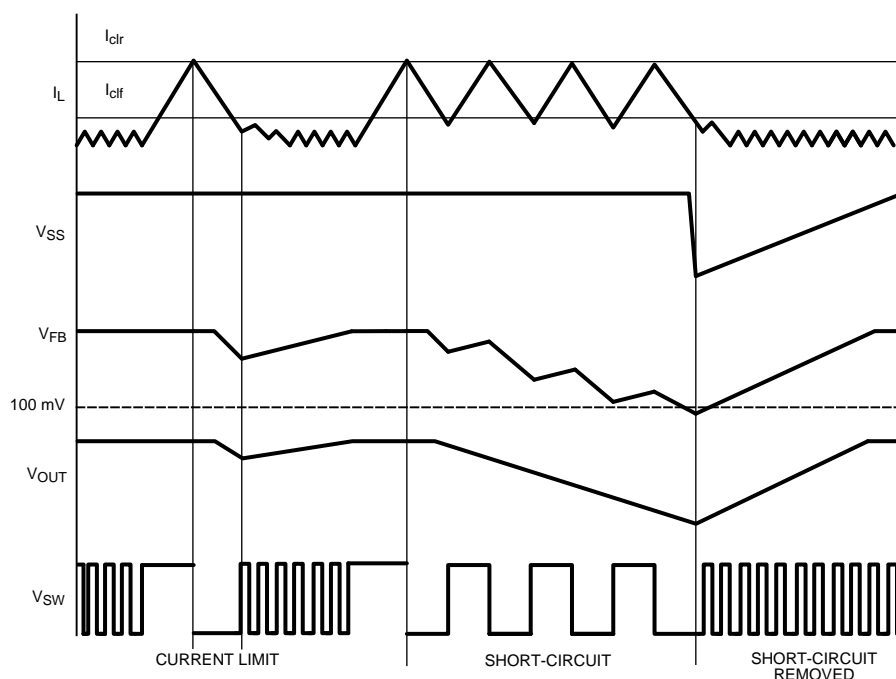

Figure 20. Current Limit Conditions
A current limit condition will cause the internal soft-start voltage to ramp downward. After the internal soft-start ramps below the Feedback (FB) pin voltage, (nominally 0.6 V), FB will begin to ramp downward, as well. This voltage foldback will limit the power consumption in the device, thereby protecting the device from continuously supplying power to the load under a condition that does not fall within the device SOA. After the current limit condition is cleared, the internal soft-start voltage will ramp up again. Figure 20 shows current limit behavior with V_{SS} , V_{FB} , V_{OUT} and V_{SW} .